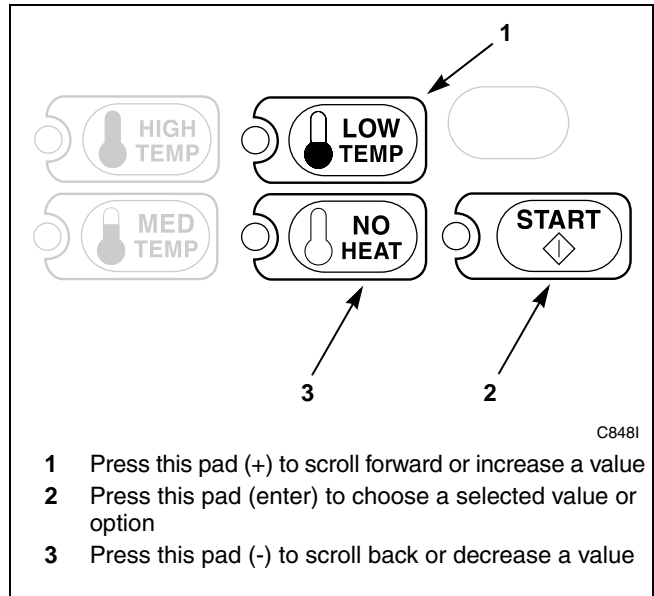

Figure 122
5. Press the LOW TEMP (+) or the NO HEAT (-) keypad to increase or decrease the minutes to the correct time. Refer to *Figure 122*.